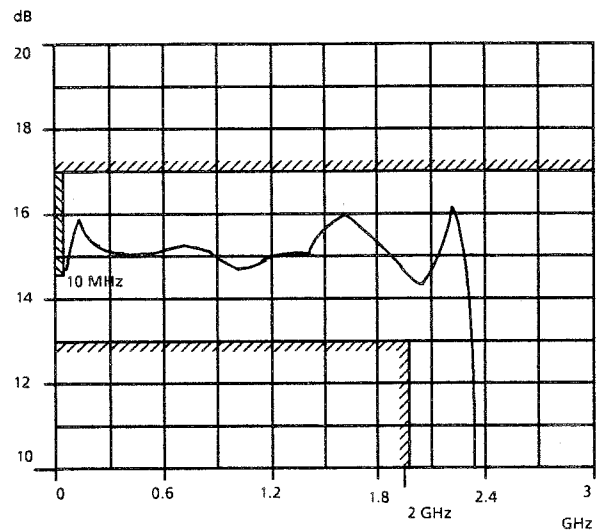

Fig. 5-2 $|S_{21}|$ Typical curve and tolerance field
- Check $|S_{21}|$ and $|S_{11}|$ according to Figs. 5-2 and 5-3.